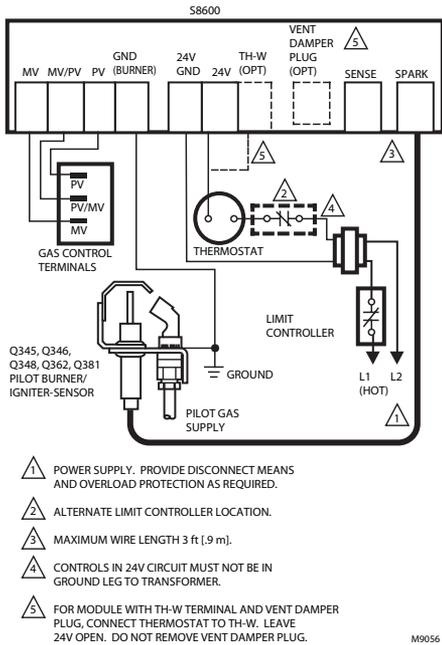

Fig. 8. Typical wiring connections for 24 volt control in intermittent ignition system with S8600.
2. Connect control circuit to the gas control terminals. See Fig. 8.